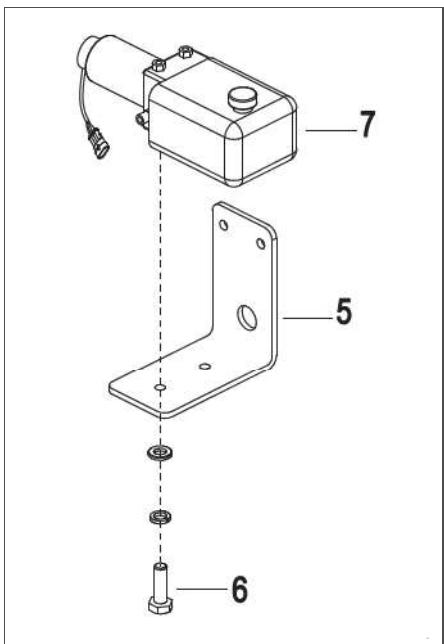

Figure 5-8 Steering Pump & Motor Assy. Mounting
8. Remove the two bolts (6, Figure 5-8) and remove the steering pump and motor assembly (7) from the bracket (5).